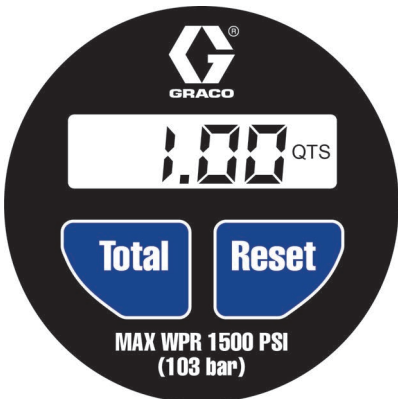

FIG. 8
- Press and hold the **TOTAL** button until 1.00 QTS (or 1.00 L) displays steady on the screen. FIG. 8 shows the meter displaying 1.00 QTS has been dispensed.